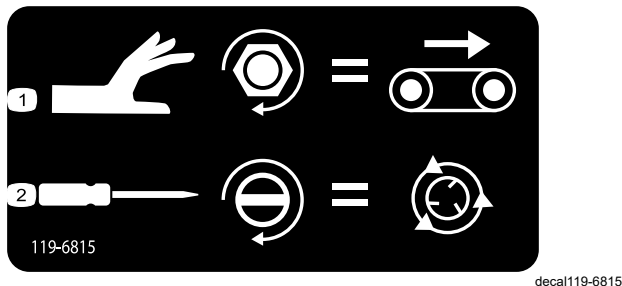

Figure 46
- To adjust the floor speed (Figure 46), turn the knob clockwise. Use the maximum-floor speed of the color-coded operation system when you have no hydraulic flow. This setting is helpful when the hopper is full of sand.
- To adjust the spinner speed (Figure 46), use a flat-head screwdriver to increase spinner speed by turning the screw clockwise or decrease spinner speed by turning the screw counterclockwise.